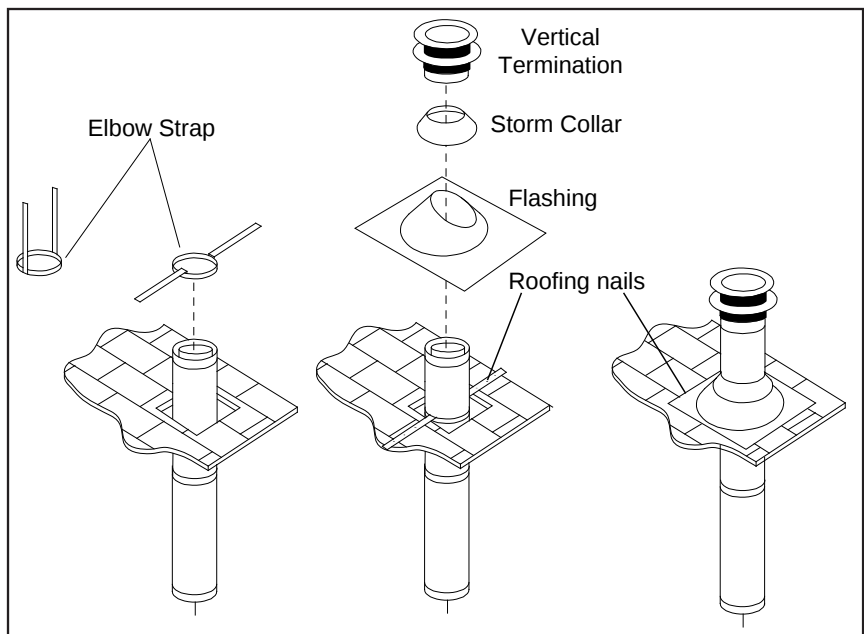

Figure 51 Vertical Vent Termination
- Step 6.** Once the pipe sections have been joined, and run up through the hole in the roof, slip an elbow strap over the exposed sections, bend the support straps outwards, and push the elbow strap down to the roof level, as shown in Figure 51. Tighten the clamp around the pipe section. Use a level to make sure the pipe is truly vertical. With roofing nails, secure the support straps to the roof. Seal the nails holes heads with non-hardening mastic. Trim the excess length of the support straps that extend out beyond the edge of the flashing.
- Step 9.** Slip the storm collar over the pipe, and push it down to the top of the roof flashing as shown in Figure 51. Use the non-hardening sealant around the joint between the pipe and the storm collar.